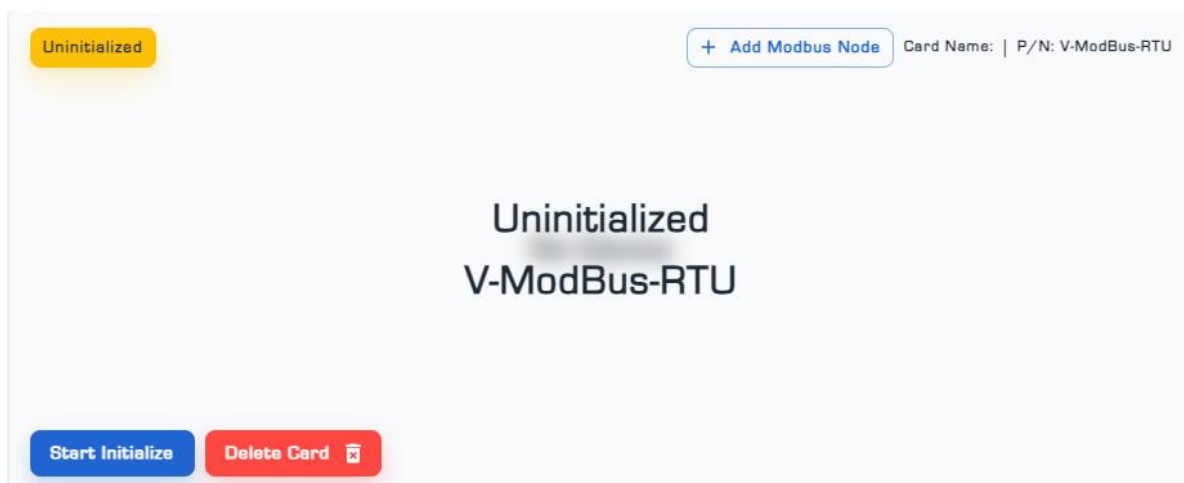

Figure 41: The added virtual card is without initial configuration.
(2) To perform the initial configuration of the card, click on the 'Start Initialize' option (Figure 41).